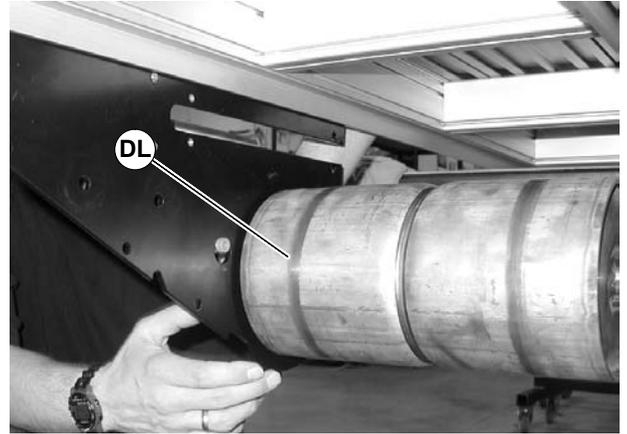

Figure 102
11. Slide drive pulley(DL of Figure 102) out of attached side plate.